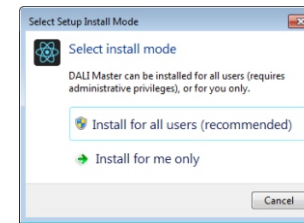

Figure 1 Select Installation Mode
Step 1: Run the installation file and select installation mode as shown in **Figure 1**.